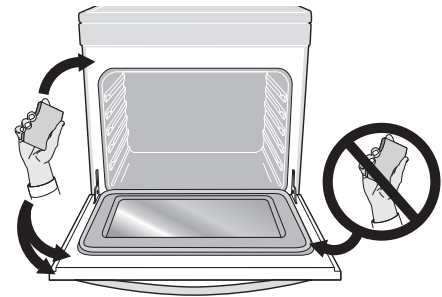

Figure 25: Areas to clean and areas to avoid (gasket)
- Do not spray oven cleaners or oven protective coatings in or around any part of the oven interior. Clean any soil from the oven frame, the door liner outside the oven door gasket, and the small area at the front center of the oven bottom (Figure 25). These areas heat sufficiently to burn soil on. Clean using soap and water prior to starting Self Clean.